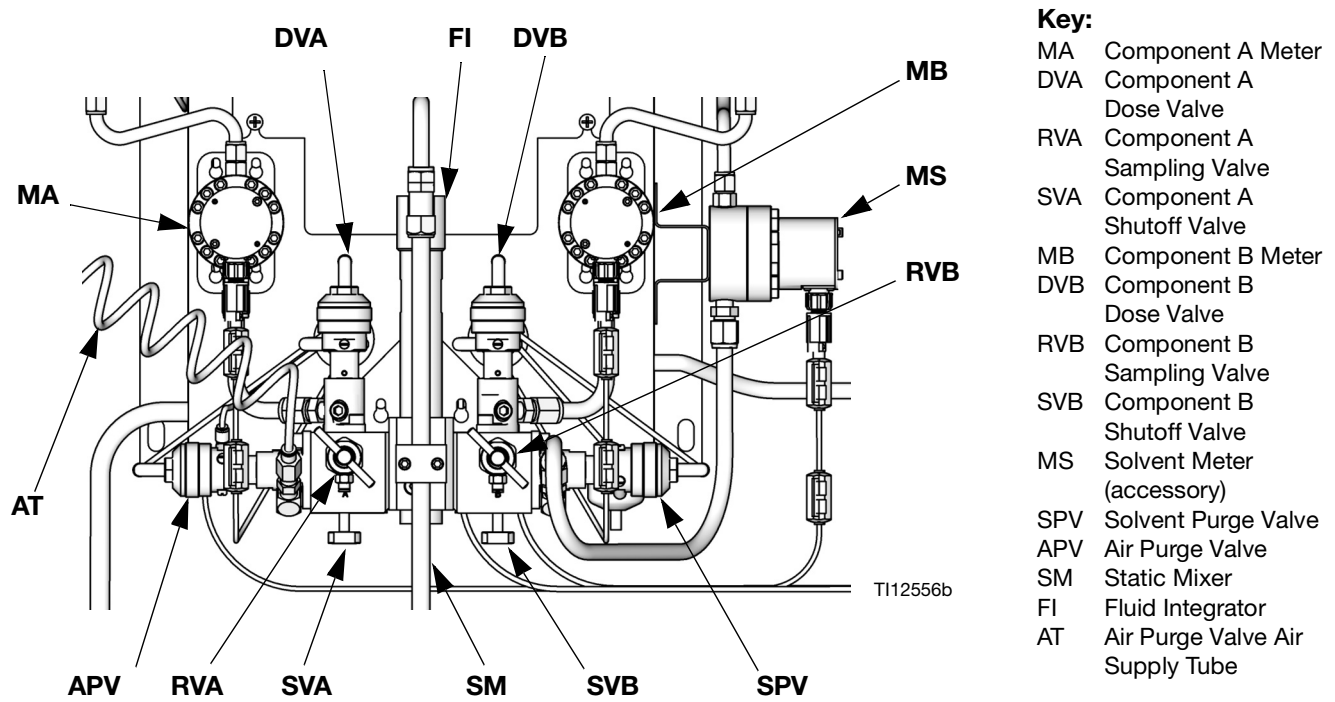

FIG. 4. Wall Mount Fluid Station
4. Shut off the fluid supply to the solvent purge valve (SPV) and the air supply to the air purge valve (APV), FIG. 4.
2. Close the A side shutoff valve (SVA), FIG. 4. Open the A side sampling valve (RVA).
8. Open the A side shutoff valve (SVA), FIG. 4. Close the A side sampling valve (RVA).